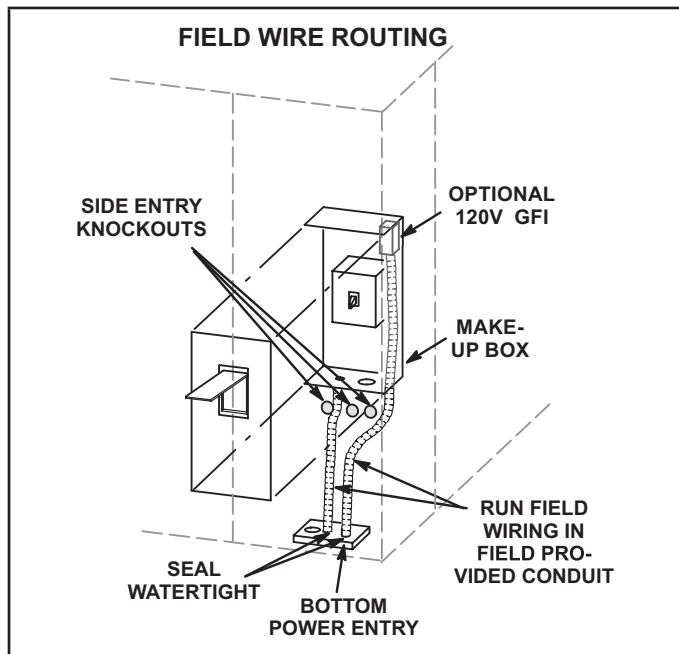

FIGURE 4
Route field wiring in conduit between bottom power entry and disconnect. See FIGURE 4. This does not supersede local codes or authorities having jurisdiction.
- 3 - Units With Optional 120v GFCI OutletRoute and connect separate 120v wiring to GFCI outlets which do not have factory-installed wiring. Route field wiring in conduit between bottom power entry and GFCI. See FIGURE 4.